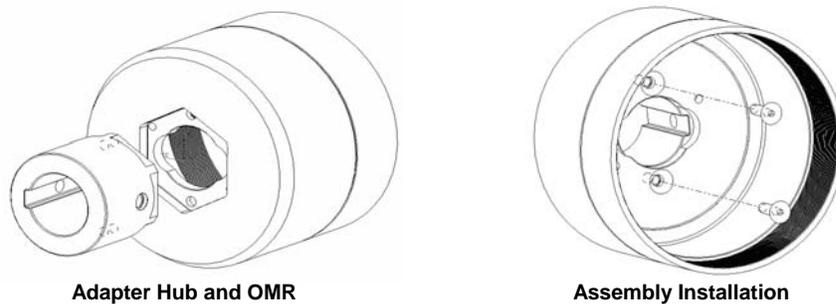

**Figure 9-11 Outer drive position with respect to bracket**
- 4) Back out the two set screws on the hub of the outer drive and place the outer drive onto the motor shaft. Position the outer drive so that the groove in the outer drive lines up with the end of the bracket +1/16, -0" (+1.6mm, -0mm). See Figure 9-11. Figure 9-12 shows the outer drive position with respect to the motor mounting plate for reference. Tighten the set screw to 10 ft-lb (13.6 N-m.) Install the 3/8" NPT pipe plug into the hole on the top of the bracket or bearing frame. This is to keep dirt out of the motor shaft area.